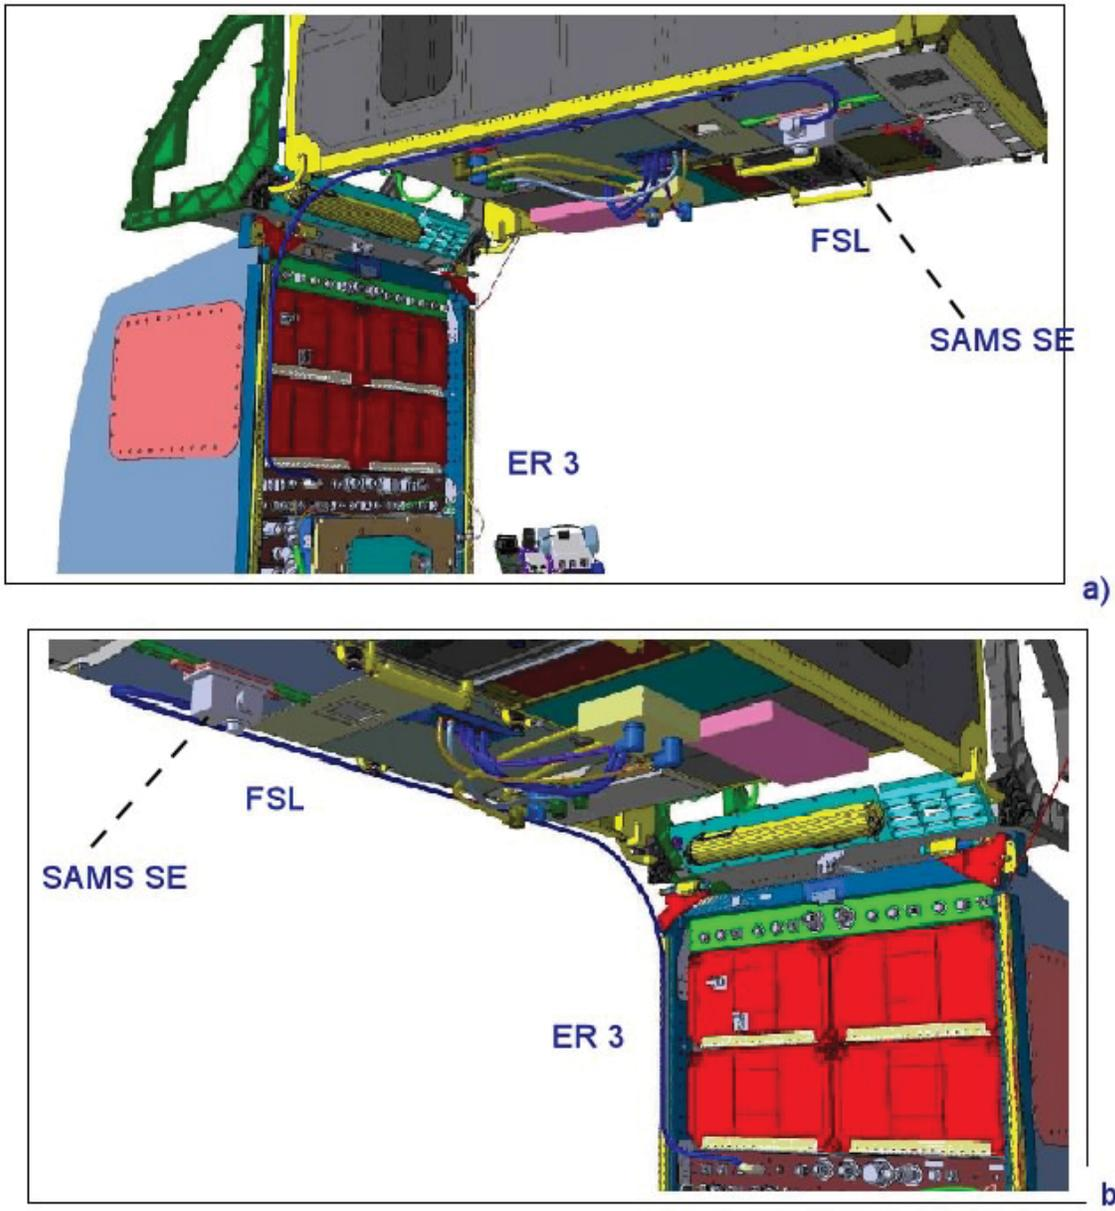

Figure 2. SAMS Cable Assy cable routing from ER3 to FSL ODM
2.6 Route the SAMS Cable Assy from the EXPRESS Rack 3 (A1) outboard seat track to the SAMS SE on FSL ODM (refer to Figures 2, 3 and 4). Secure SAMS Cable Assy with Velcro Straps as necessary.